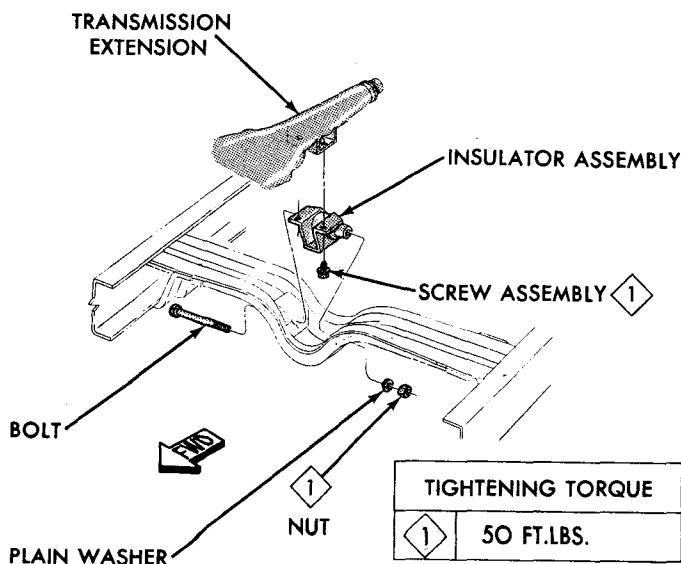

Fig. 2—Engine Mount-Rear-Models D100-200-300
(5) Raise vehicle on hoist.
(6) Install transmission and engine rear support crossmember. Remove engine support fixture Tool C-3487A. (Fig. 2).
(7) Connect propeller shaft, wires, linkage, cables, exhaust pipes to manifolds, (oil cooler lines and transmission filler tube if so equipped.)
(8) Lower vehicle, install compressor if equipped with air conditioning.
(9) Install radiator, fan shroud, hoses and oil cooler lines.
(10) Install rotor, distributor cap and spark plug wires. Connect electrical connections at ignition coil, alternator, temperature and oil pressure sending units (oil gauge line if so equipped) starter relay-to-solenoid and engine to body ground.
(11) Remove engine lifting fixture from cylinder head. Uncap flexible fuel line and install to fuel pump.
(12) Install battery, close all drain cocks and fill cooling system.
(13) Fill engine crankcase and transmission as necessary. Refer to "Lubrication" Group 0, for quantities and lubricants. Inspect the entire system for leaks and correct as necessary.